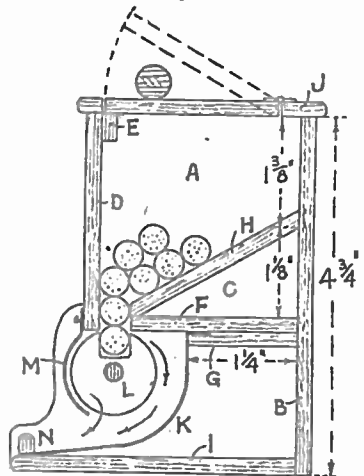

Fig. 2—How the box works
A view of the finished article is given in Fig. 1, while the method of working it is shown in the cross section in Fig. 2. There is a plain box-like container with lid on top for the insertion of the cigarettes. Inside the
It will be seen by a study of Fig. 2 that the groove into which the cigarette first falls can be turned forwards or
backwards, and the result will be the same either way. Note the arrows in the diagram Fig. 2.
Next cut the triangular shaped pieces (C) to go on the inside of ends (A). These pieces measure 1 1/2 ins. long by 1 1/2 ins. wide, as seen in Figs. 2 and 3. Mark where the pieces (C) are to go—1 1/2 ins. down from the top edge of (A), and glue them firmly in place and square on the back.